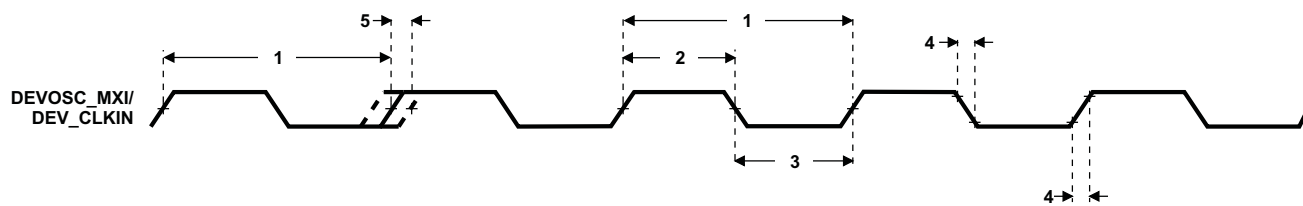

Figure 7-12. DEV_MXI/DEV_CLKIN Timing
Table 7-15. Timing Requirements for DEVOSC_MXI/DEV_CLKIN^{(1) (2) (3)}(see Figure 7-12)